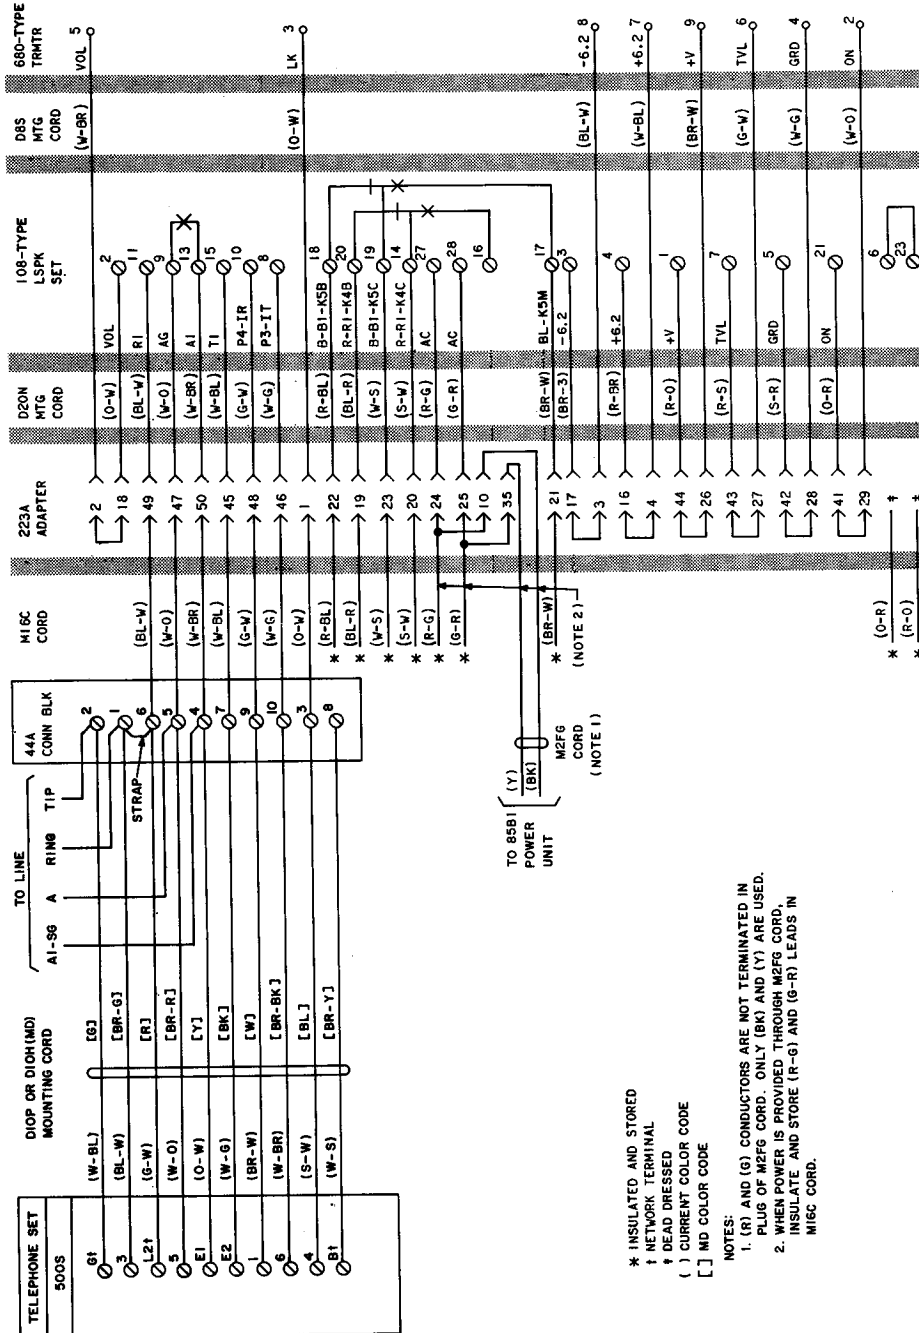

Fig. 3—500S Telephone Set, Connections to 4A Speakerphone
1.04 To provide 4A speakerphone feature for these telephone sets, refer to Fig. 1 and 2 for layout arrangement of the components required, and Fig. 3 through 7 for individual connections.
1.05 The 511D (MD) telephone set is factory-wired for non-KTS use (Fig. 3). The 511F (MD), 511H (MD), 511HM, 2511F (MD), 2511H (MD), and 2511HM telephone sets are factory-wired for use with 1A1 or 1A2 KTS (Fig. 4, 5, and 6).